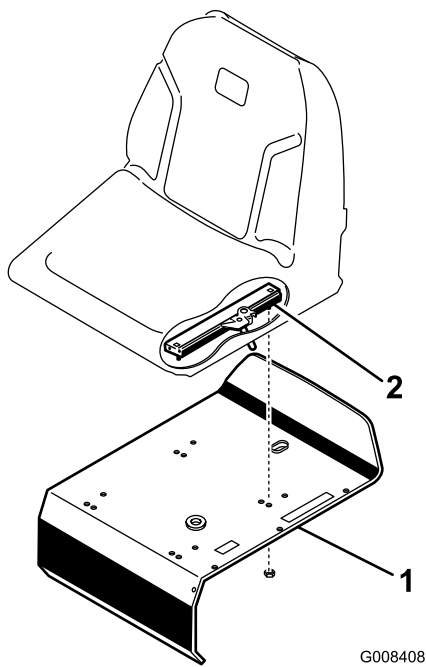

Figure 4
3. Secure the seat, seat panel, and seat slides to the seat support with the locknuts (5/16 in.) (Figure 4) supplied in the loose parts.